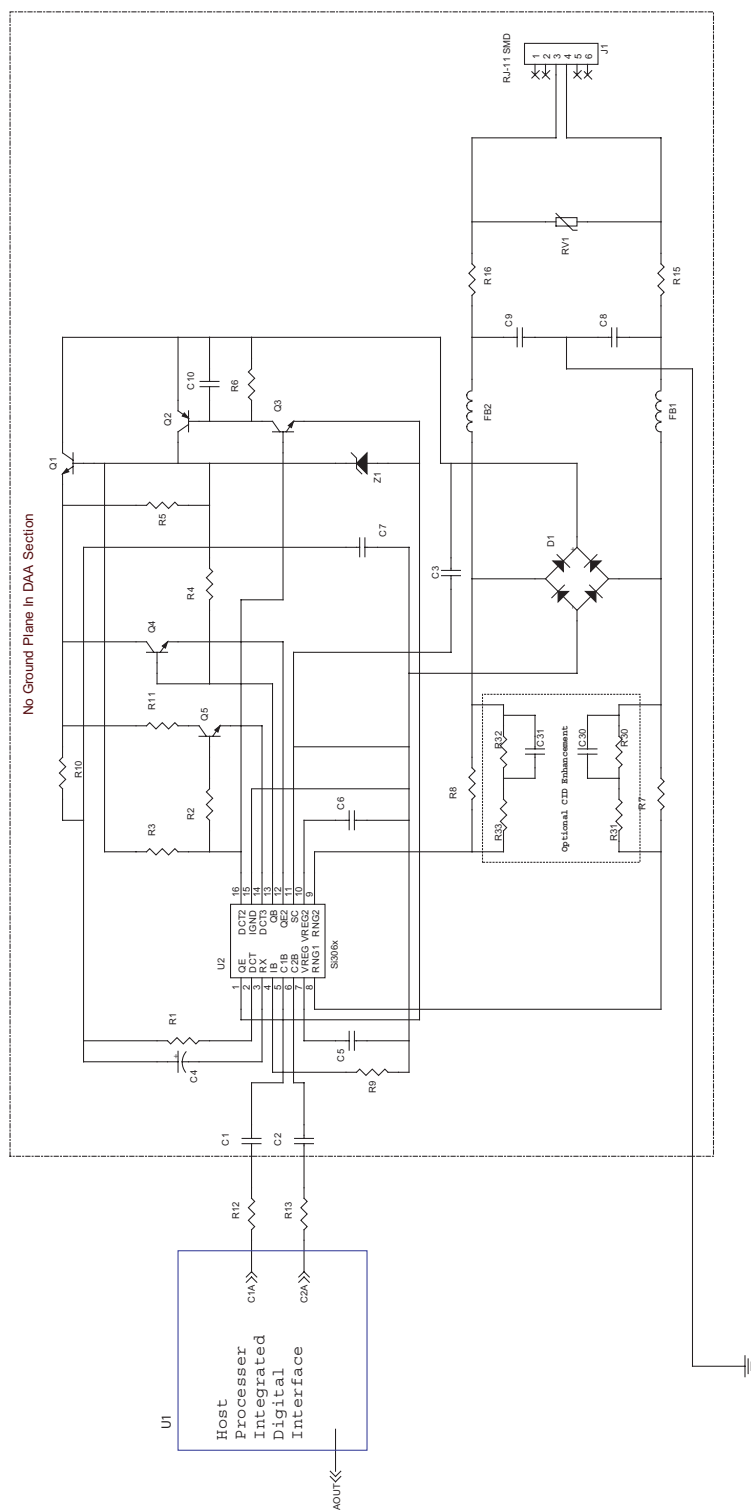

Figure 2. Typical Application Circuit for the Si306x Line-side device
7. $DR_{CID} = 20 \times \log(\text{RMS } V_{CID}/\text{RMS } V_{IN}) + 20 \times \log(\text{RMS } V_{IN}/\text{RMS noise})$. V_{CID} is the 1.5 V full-scale level for the typical application circuit in Figure 2.